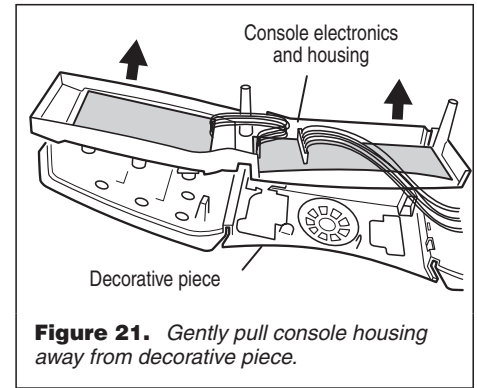

Figure 21. Gently pull console housing away from decorative piece.
- Gently pull the console electronics housing away from the decorative piece. See figure 21.